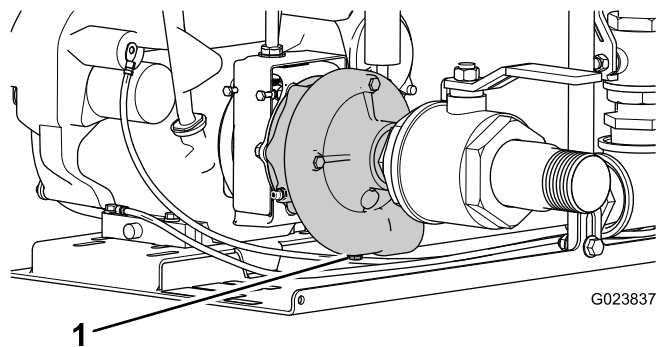

Figure 22
4. Drain any remaining fluid from the pump by removing the drain plug in the bottom of the pump (Figure 22).